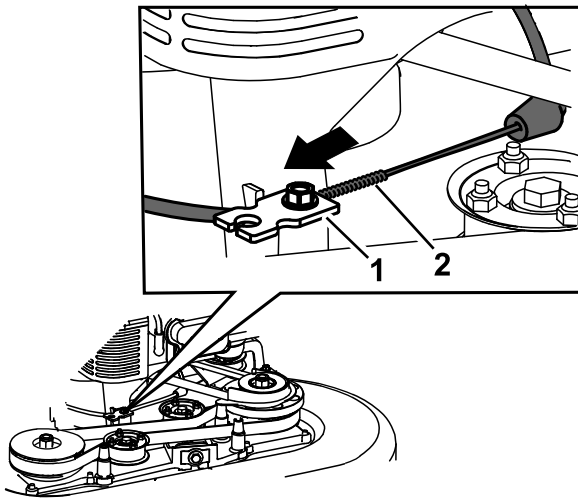

Figure 15
9. Pull the cable jacket to remove slack (Figure 15).